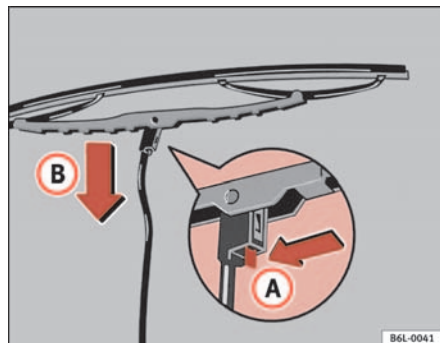

Fig. 124 Change windscreen wiper blade
- Press the retaining spring in direction **A** ⇒ fig. 124.
- Unhook wiper blade in direction of arrow **B** ⇒ fig. 124 and remove it from the wiper arm in the opposite direction.